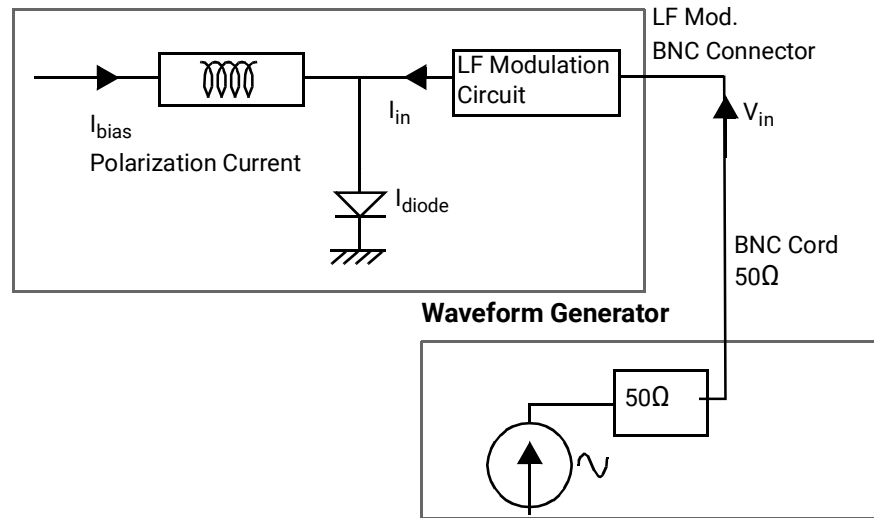

Figure 8: Low frequency modulation setup
1. Connect an external modulation source to the **LF Mod**. BNC connector, as shown in *Figure 8*, p. 44.